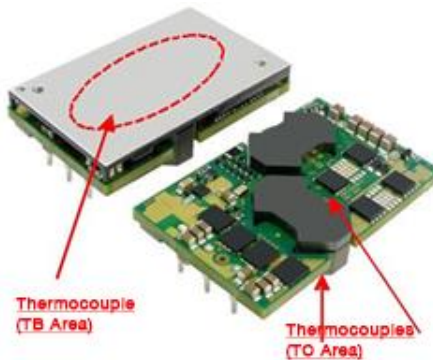

Figure 5. Location of the thermocouples for thermal testing
Ensuring components on the converter do not exceed their ratings is important to maintaining high reliability. If one anticipates operating the converter at or close to the maximum loads specified in the derating curves, it is prudent to check actual operating temperatures in the application. Thermographic imaging is preferable; if this capability is not available, then thermocouples may be used. The use of AWG #36 gauge thermocouples is recommended to ensure measurement accuracy. Careful routing of the thermocouple leads will further minimize measurement error. Refer to Fig. 5 for the optimum measuring thermocouple location.
- (ii) The output current at which the temperature at the thermocouple locations TC do not exceed 120°C. (Fig. 5)
- (ii) The output current at which the temperature at the thermocouple locations TC do not exceed 125°C. (Fig. 5)
The converter was shielded from air flow. The baseplate temperature was maintained $\leq 85^\circ\text{C}$, with an airflow rate of $\geq 30\text{LFM}$ ($\geq 0.15\text{m/s}$). Thermocouple measurements (in Fig. 5) were recorded as $T_C \leq 120^\circ\text{C}$ and $T_B \leq 85^\circ\text{C}$. Refer to Figure 26 and Figure 27.